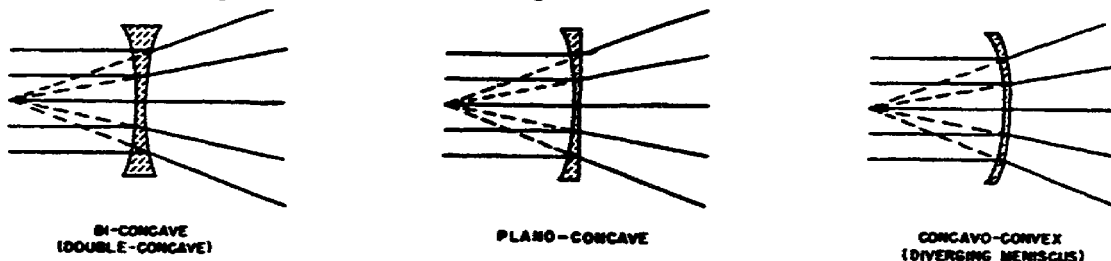

Figure 2-7. Negative Lenses.
(1) Double-convex lenses (bi-convex) have two convex surfaces. Both surfaces contribute to the converging characteristics of the lens.
(2) Plano-convex lenses have a plane surface and convex surface. The plane surface does not contribute to the converging characteristics of the lens.
(3) Convexo-concave lenses (converging meniscus) have both a convex and a concave surface. The more pronounced convex curve makes this a positive lens despite the fact that the concave surface spreads light and subtracts from the converging characteristics of the lens.
b. Negative lenses, (fig 2-7).